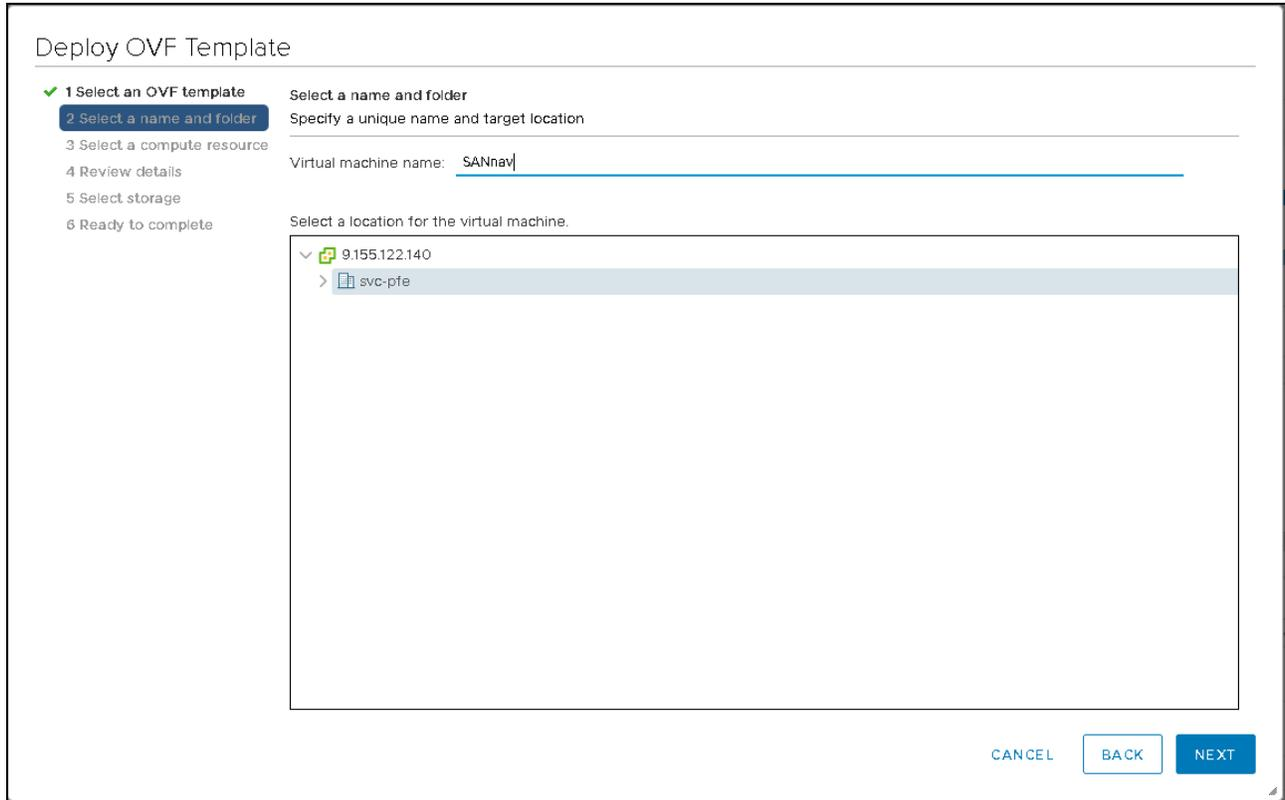

Figure 3-9 Selecting a name and folder
4. Select a name and folder. In this step, you must select a name and folder from the vCenter server for the managed cluster (data center) in which you want to deploy the virtual appliance. An example is shown in Figure 3-9.